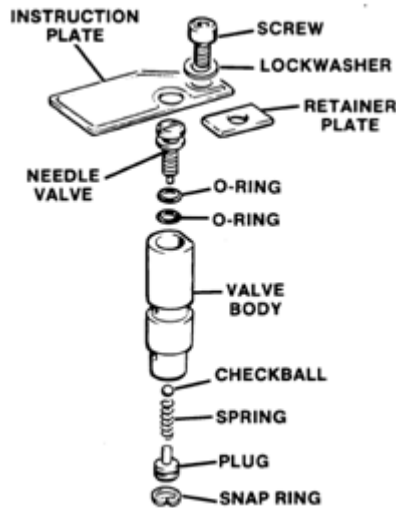

Figure 5-39. Timing Valves
2. Clean both timing valves, replace O-rings on needle valves, insert in column, and secure with retainer plate, instruction plate, lockwasher and screw (Figure 5-39).